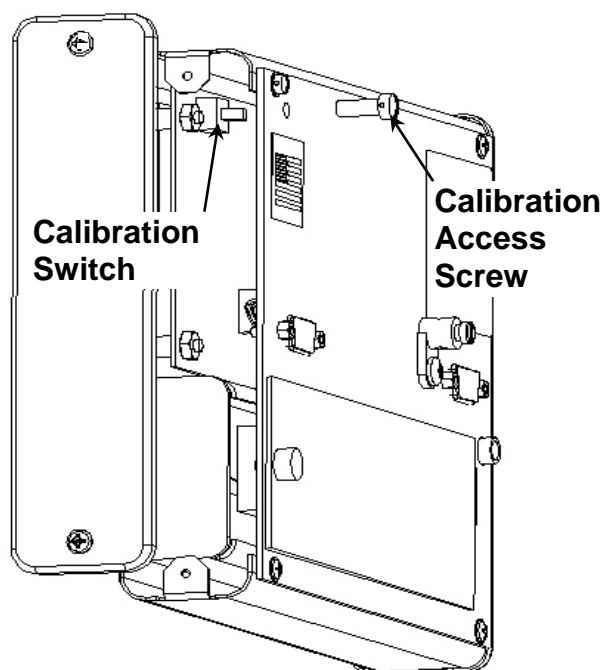

Figure No. 8
1. With the power off, remove the Calibration Access Screw on the upper left corner of the rear panel, see Figure No.8.